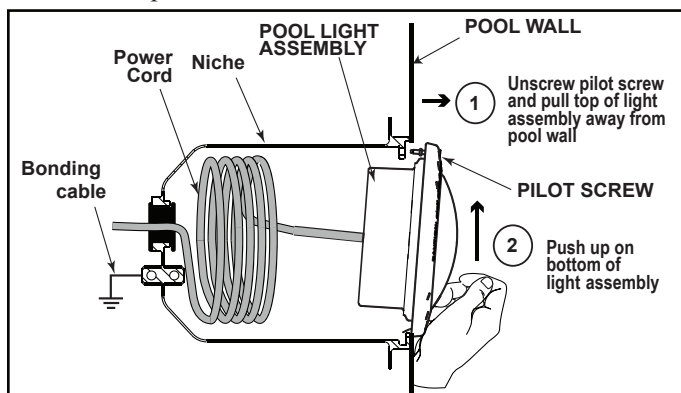

Figure 6. Removing the Jandy Pro Series White LED Light Assembly for Light Driver Replacement
3. To remove the light assembly, unscrew the special pilot screw at the top of the face ring, remove light assembly from niche and gently place assembly on the deck. It is not necessary to drain down the pool. See Figure 6.